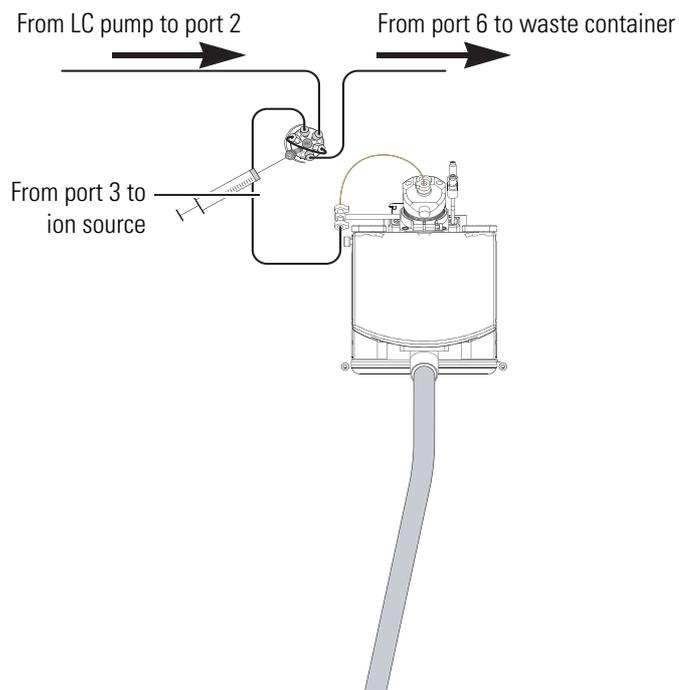

Figure B-12. Plumbing diagram for loop injection into the solvent flow from an LC into an ESI probe
- For the ESI probe, use two fingertight fittings and two ferrules to connect a length of red PEEK tubing between port 3 of the switching valve and the grounding union. See Figure B-12. To connect the other end of the grounding union to the ESI probe sample inlet, follow the instructions in the *Ion Max and Ion Max-S API Source Hardware Manual*.